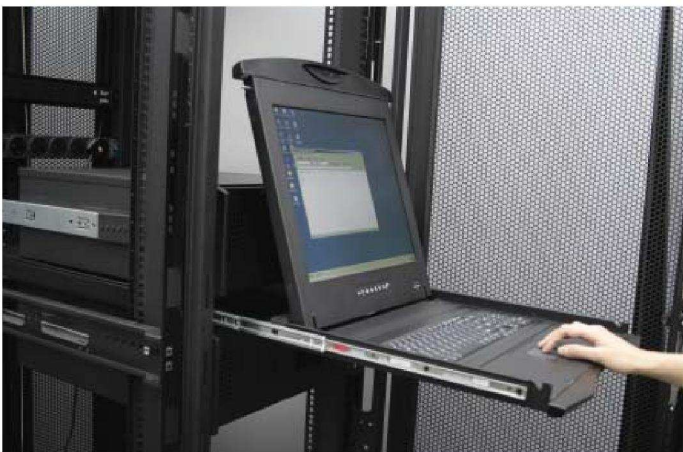

Figure 6. Operating the LCD keyboard drawer
- Operate the LCD keyboard drawer shown in Figure 6.